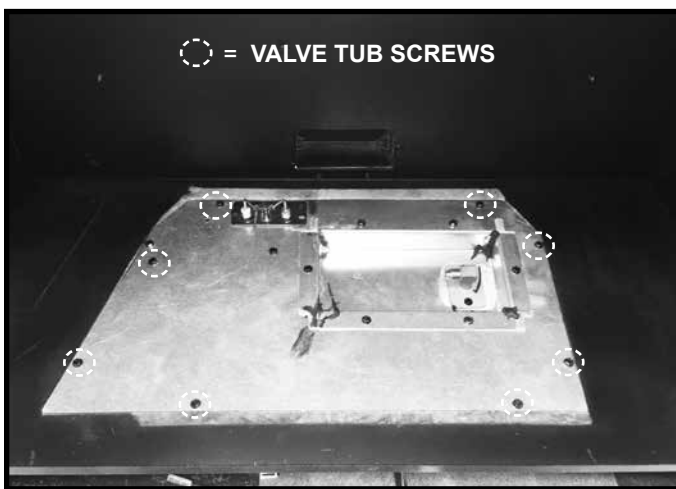

Figure 2
5. Remove the screws from the valve tub. The pilot wires, pilot gas tube, and flex orifice line will still be attached to the valve tub. Set the valve tub to the side in order to allow access to the underside of the firebox. See Figure 2 and 3. Remove and discard old valve tub gasket.